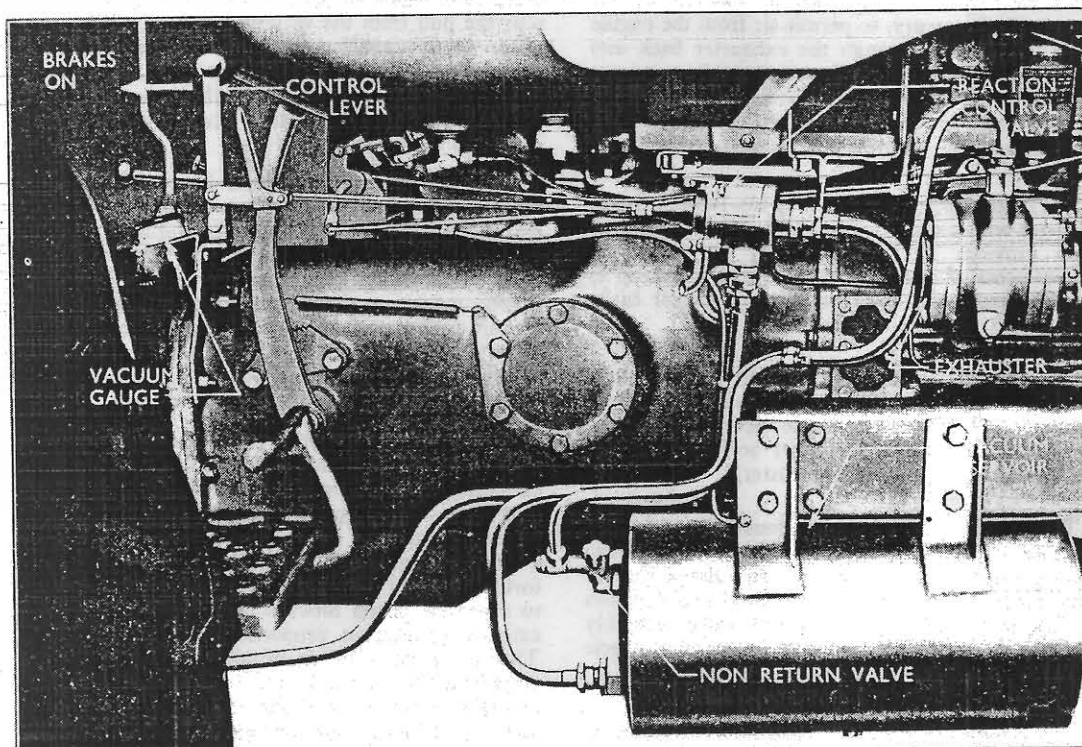

Fig. 1
1. At the left-hand side of the tractor remove the four side channel member to front transmission housing securing screws and spring washers. Secure the power cylinder abutment bracket at this location (see Fig. 1) using the four longer screws and spring washers supplied, tightening the screws to a torque of 65 to 70 lbs. ft. (9.0 to 9.7 kg.m.).
The piston is spring loaded and directly connected to the operating lever through the medium of a control rod, extension rod and fork (see Figs. 1 and 2).
A small spring is fitted between the end of the control rod extension and the operating lever connecting fork (see inset Fig. 1). This allows small fluctuations of the piston assembly independent of the operating lever. When the combined valve opens at the vacuum end a depression is formed in the forward part of the reaction valve cylinder, tending to draw the piston forward against the control rod extension spring in proportion to the depression. Thus, in order to obtain heavier braking power the combined valve must be moved further off its seat at the vacuum end and the effort at the operating lever to achieve such movement is progressively increased in proportion to the depression in the forward part of the cylinder.